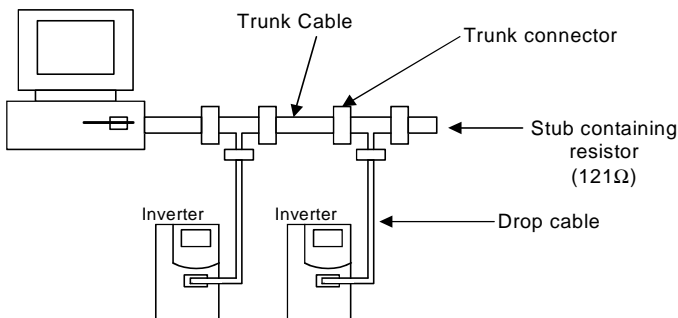

Figure 2-6 : Connection to System
- (1) Check that power is turned off to the inverter.
- (2) Make sure that the terminating resistor is installed at each end of the trunk cable, as shown in Figure 2-6. These resistors must meet the following requirements: